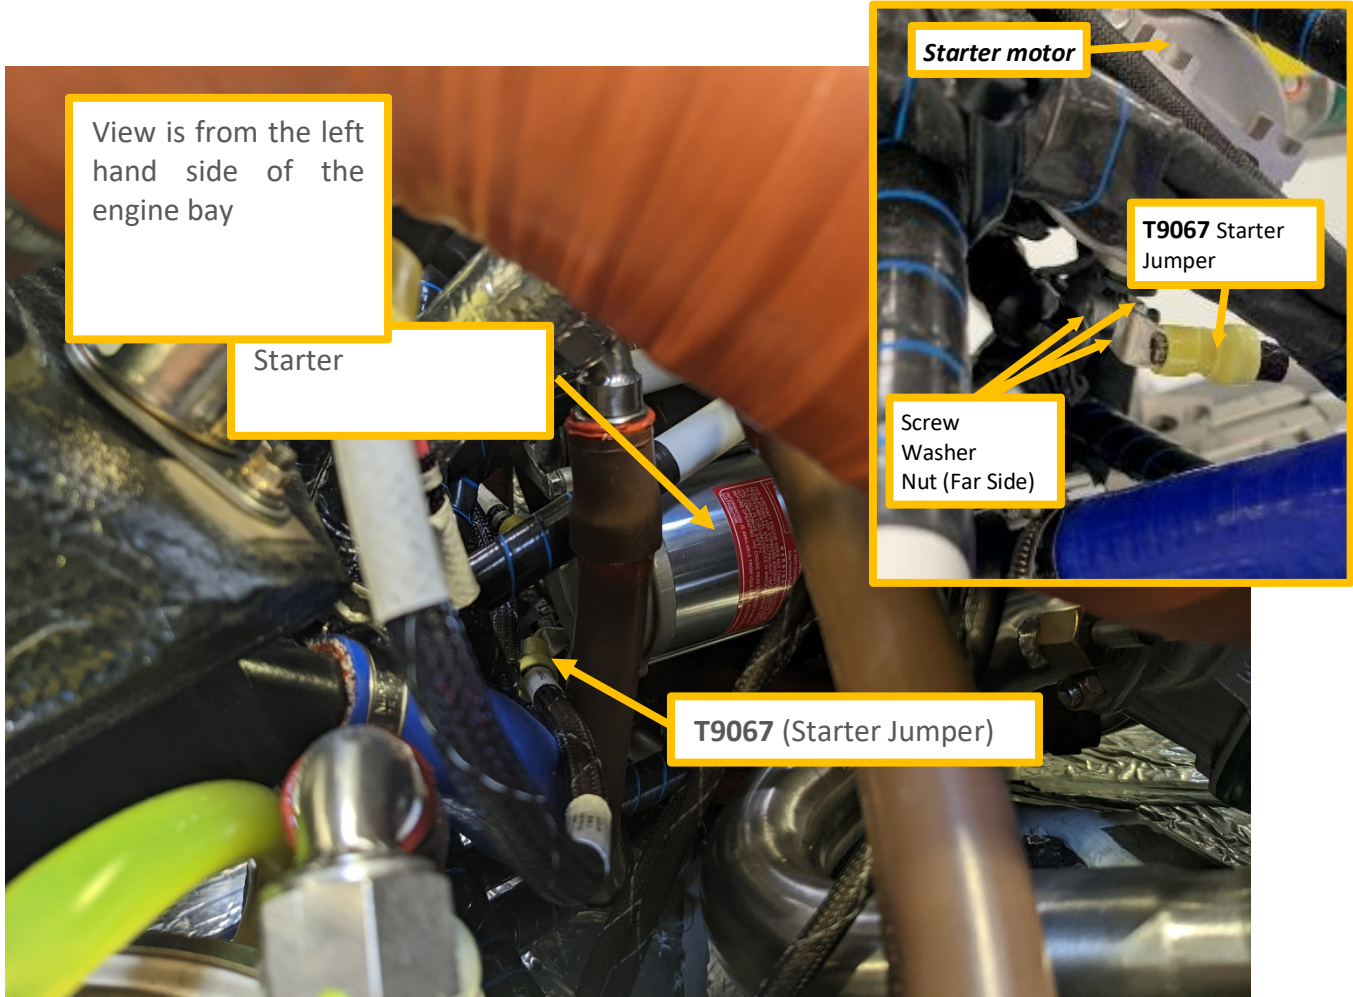

Figure 5 Engine Starter Motor (T9067)
- iv. T9067 (Connected to Engine Starter Motor) See Figure 5
- i. Attach ring terminal **T9067** from Starter Jumper to the Starter Motor using the retained M5 hardware, see Figure 5. It is permissible to bend the Ring Terminal up to 45 Deg.